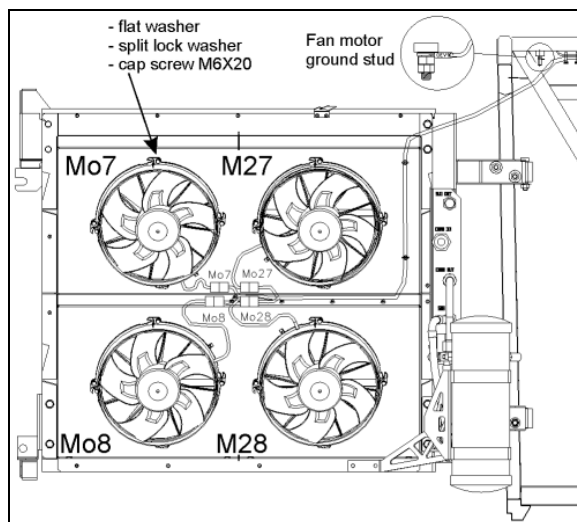

FIGURE 60: CONDENSER FANS
2. Unplug the fan harness connector (Figure 60).